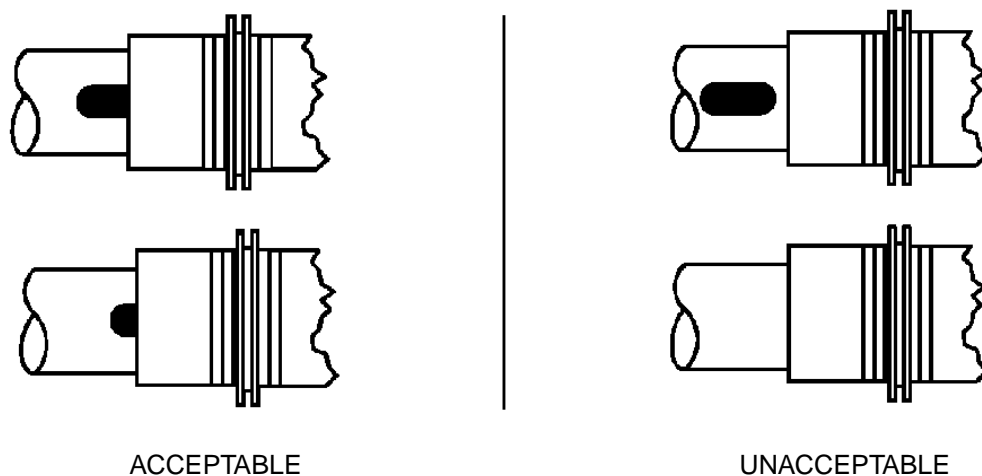

Figure 8 - Tube Insertion Marks
- Step 6. Tear any exposed tape off the tube and check that a partial tube insertion mark is showing (see Figure 8). If the tube insertion mark is completely visible or completely covered, the swage is unacceptable and must be replaced.
- Step 9. Remove any exposed masking tape from the tube and check that a partial tube insertion mark is visible (see Figure 8). If the tube insertion mark is completely visible or completely covered, the swage is unacceptable and must be replaced.
- 6.4 Check the fitting for proper location of the tube insertion marks. Marks must be partially visible as shown in Figure 8. Replace the fitting if a mark is either completely hidden or completely visible.